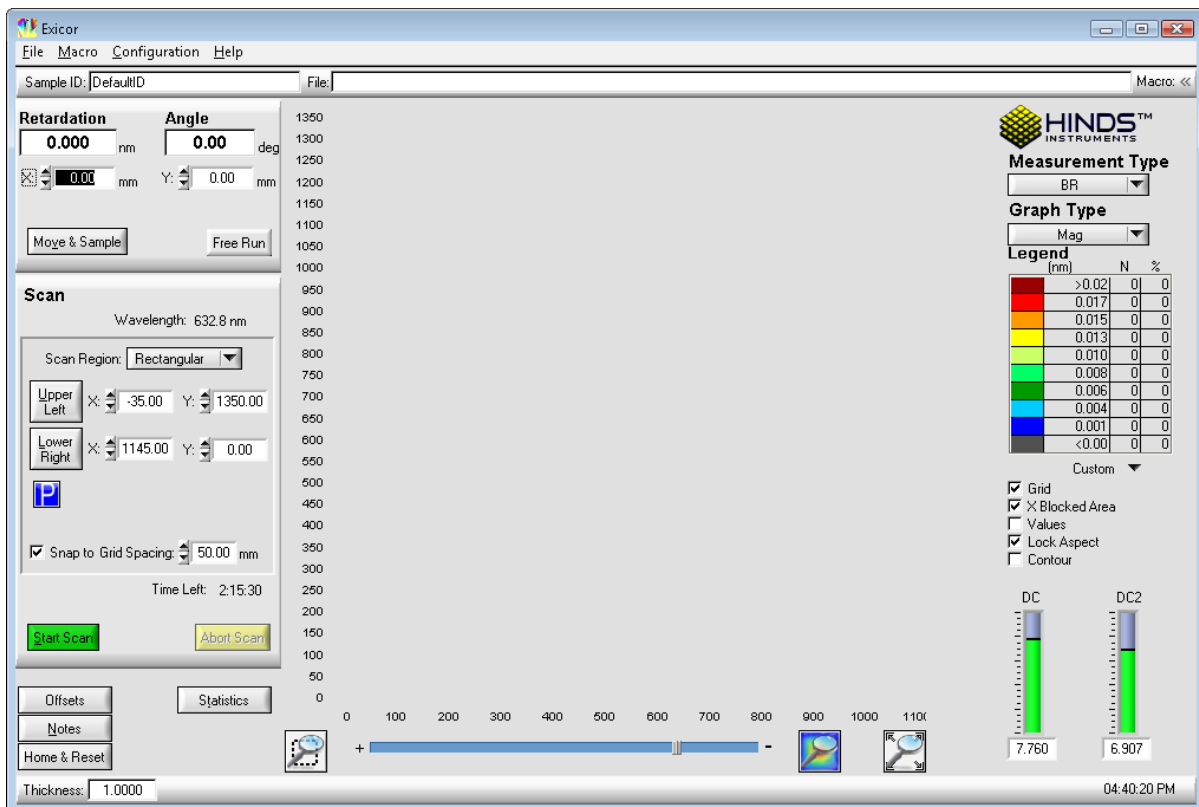

Figure 3.4 Exicor Main Window at Startup
1. After the initialization of the system, the main window appears as shown in Figure 3.4.